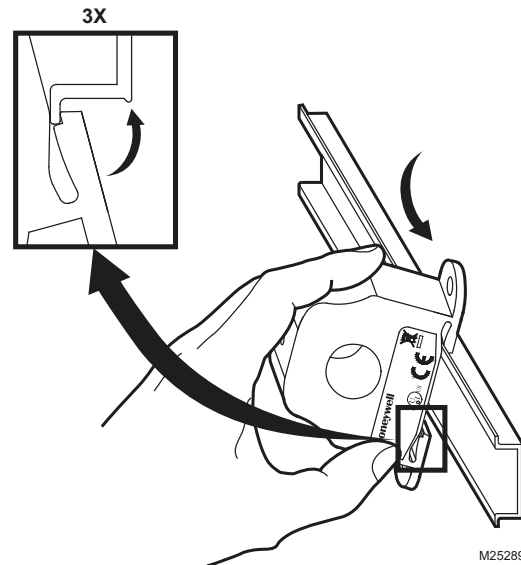

Fig. 3. Sensor placed on DIN rail
The current switch may be mounted in any position using the (2) #8 x 3/4 in. (19 mm) Tek screws and the mounting holes in the base snapped directly on to the 1.4 in. (35 mm) DIN rail (See Figures 3 and 4). Leave a minimum distance of 1 inch (25 mm) between the current switch and any other magnetic devices, such as contactors and transformers.